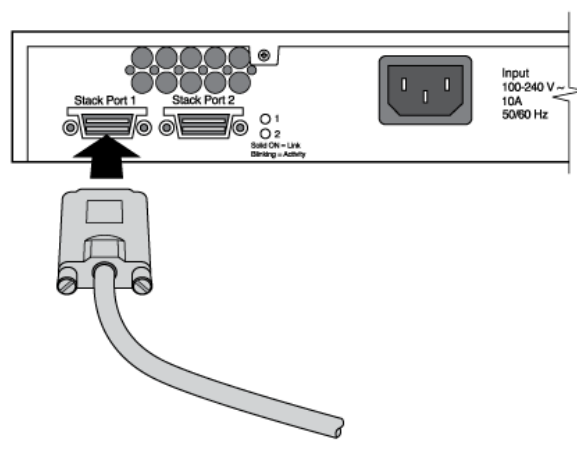

Figure 131: Connecting a SummitStack Cable
- 1 Align the cable connector with the stacking port connector on the rear of the first switch (see Figure 131).